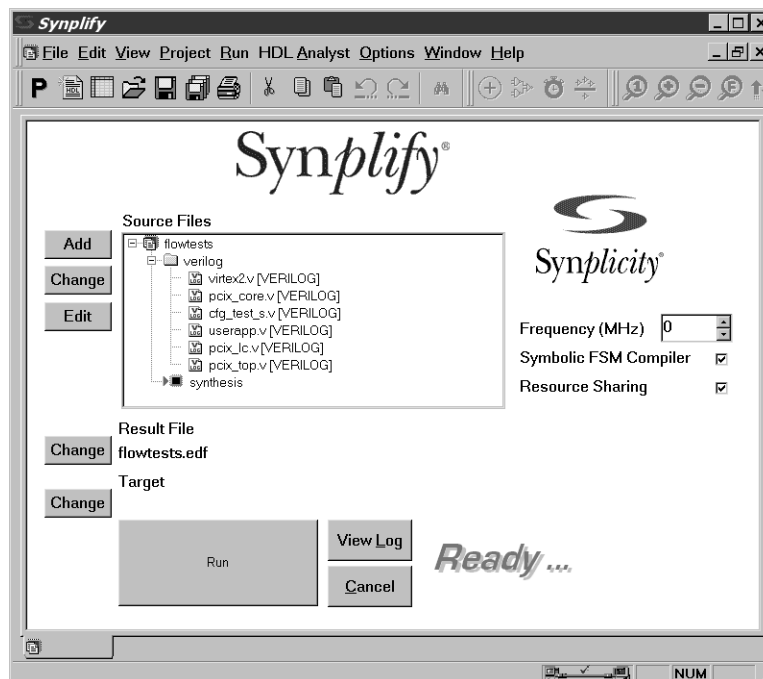

Figure 5-6: Source Files in Main Project Window
- In the Source Files list, view the list of newly added source files by double-clicking the `flowtests/verilog` folder (if it is not already open). Reorder the source files in the folder by dragging them to list them in the hierarchical order displayed in Figure 5-6.